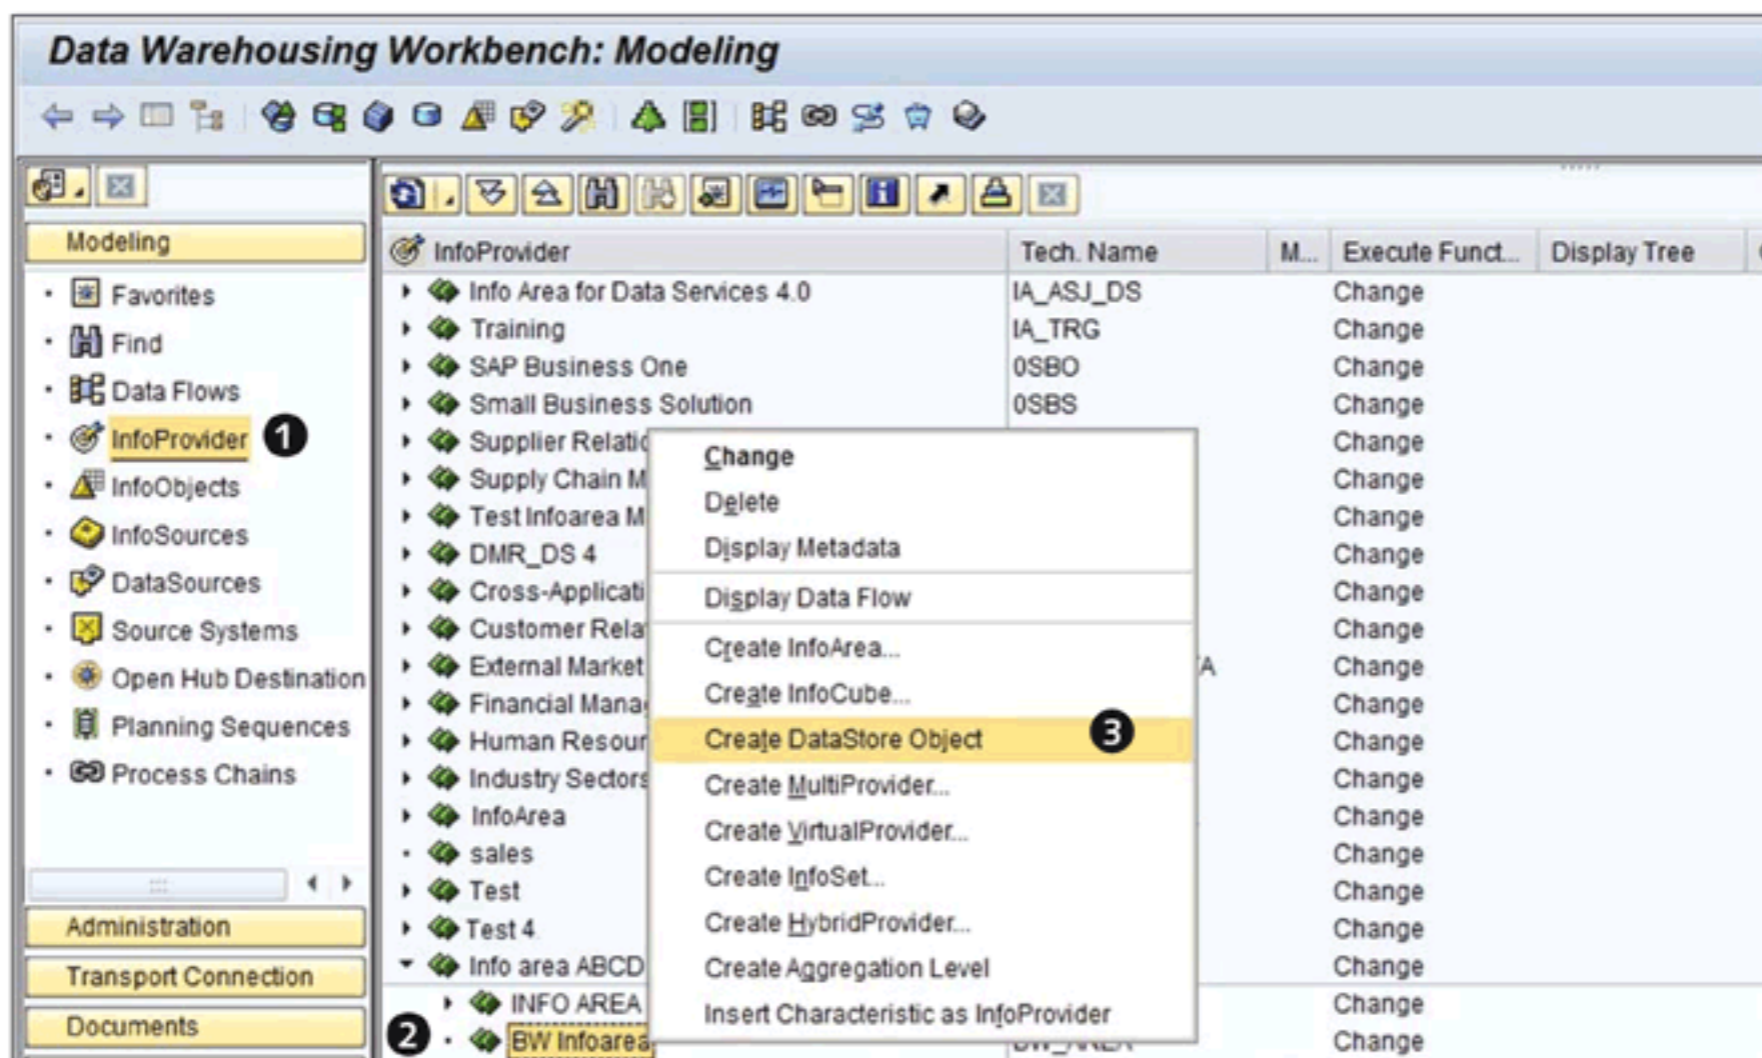

Figure 4.8 Creating a DSO
To begin, start the DWW using Transaction RSA1. Under MODELING in the NAVIGATION section, select INFOPROVIDER, as shown in ❶ of Figure 4.8. DSOs are created under InfoArea. From the tree section of the screen, select the InfoArea to which you want to attach your DSO (❷). In this example, InfoArea BW_AREA is selected.